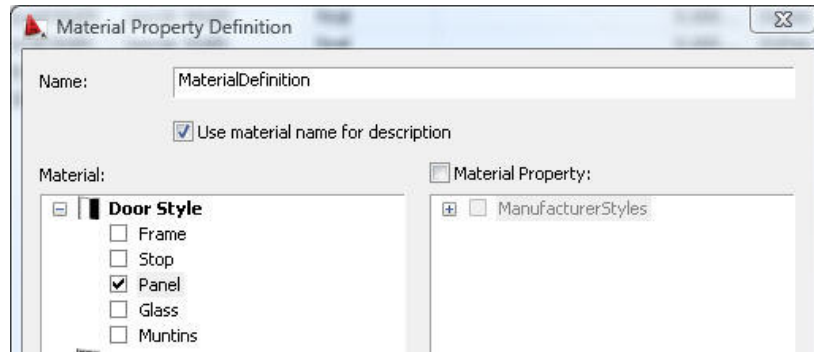

Figure 19. Creating a Material Property to store the Material Definition assigned to a Door Panel.
- **Edit the Property Set Definition** – Edit the "AU-DoorStyles" property set definition and add a Material Property. In the Material Property Definition screen, change the name to "MaterialDefinition" and expand the "Door Style" tree. Select "Panel" to use the material assigned to the door panel for this value. Select "OK", then set the data format type to "Case – Upper". Finally, select "OK" until you return to the drawing editor. (See Figure 19).